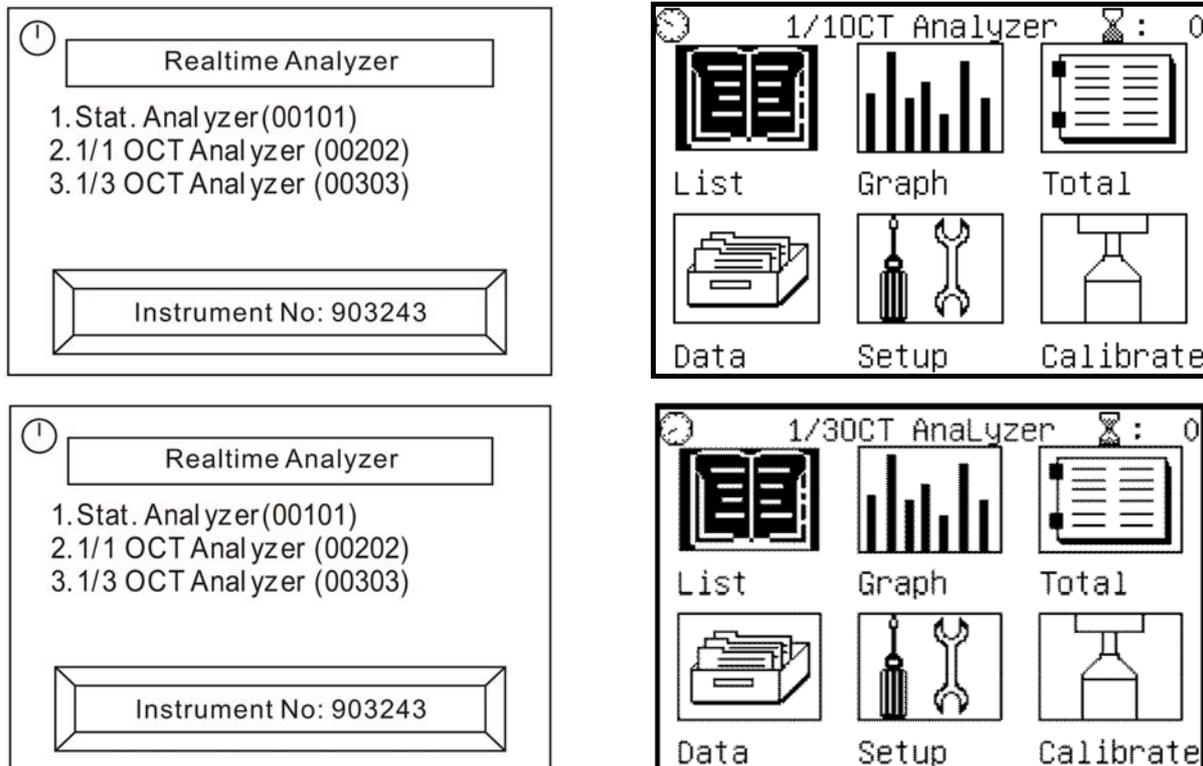

Fig. 22: Initial screens for analysis in 1/1 and 1/3 octave band
1. Turn on the instrument by pressing the “” key. The screen for the selection of the analysis type is shown on the display for approximately 5s (see Fig. 22)
1. Select the “**Total**” item in the main menu (see Fig. 22) and confirm with “”. The instrument displays the following screen, relevant to the “**Linst**” item: